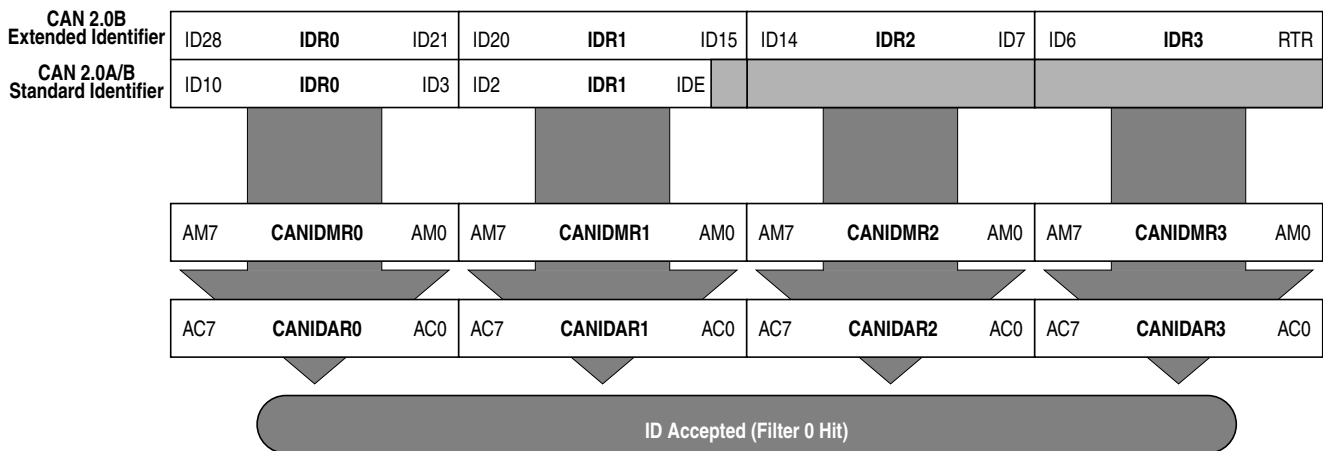

Figure 12-37. 32-bit Maskable Identifier Acceptance Filter
- The 11 bits of the standard identifier plus the RTR and IDE bits of the CAN 2.0A/B messages¹. This mode implements two filters for a full length CAN 2.0B compliant extended identifier. Figure 12-37 shows how the first 32-bit filter bank (CANIDAR0–CANIDAR3, CANIDMR0–CANIDMR3) produces a filter 0 hit. Similarly, the second filter bank (CANIDAR4–CANIDAR7, CANIDMR4–CANIDMR7) produces a filter 1 hit.